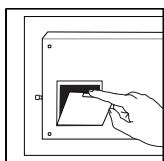

Figure 1
1. Remove battery compartment cover and insert 4 "AA" batteries (included). Make sure that the batteries are installed in the correct direction with regard to polarity (+ and -). (Figure 1 & Figure 2).